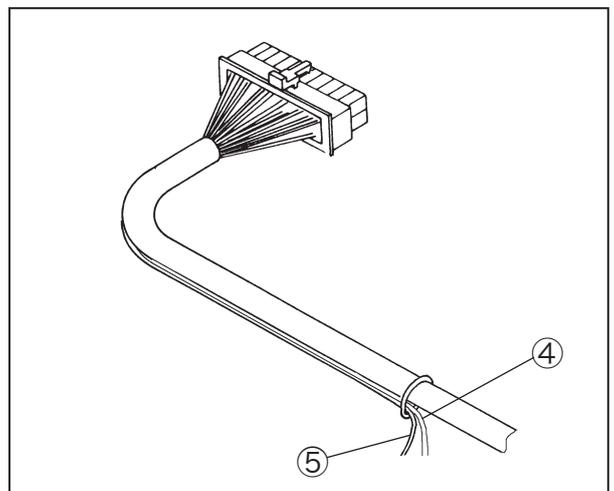

Fig. 2-7
- ◇ Connect the black wire ④ (for GND) and the white wire ⑤ (for signal) of the intermediate cable to the tap for automatic motor stop, referring to Fig.2-7.